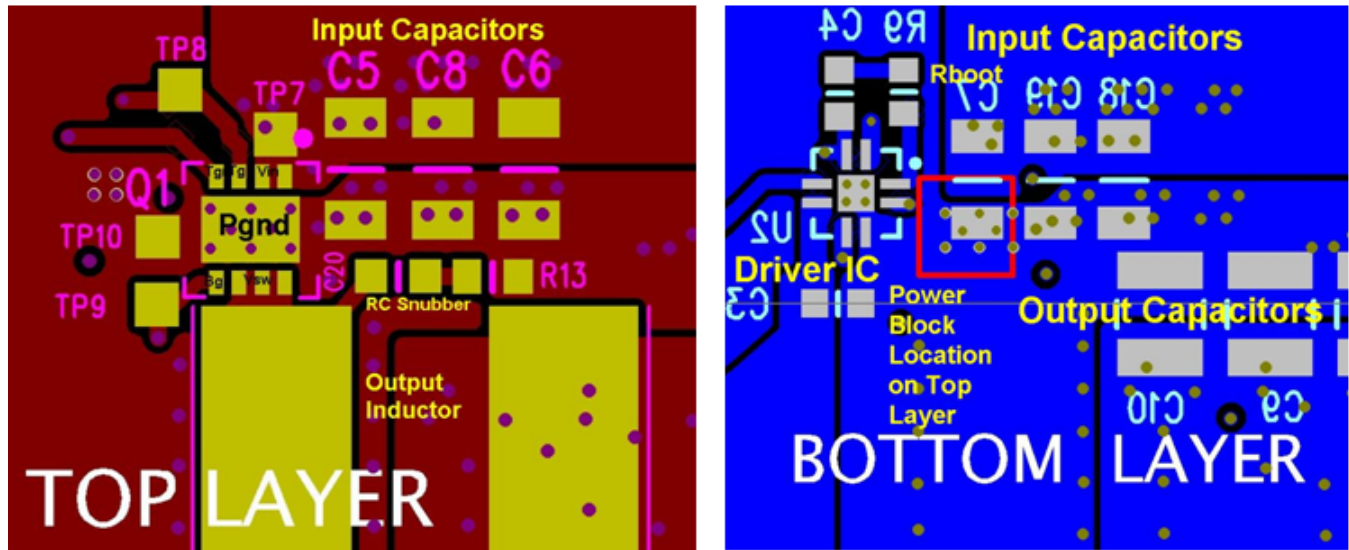

Figure 21. Recommended PCB Layout (Top Down)
- The placement of the input capacitors relative to the power block's V_{IN} and P_{GND} pins should have the highest priority during the component placement routine. It is critical to minimize these node lengths. As such, ceramic input capacitors need to be placed as close as possible to the V_{IN} and P_{GND} pins (see Figure 21). The example in Figure 21 uses six 10-μF ceramic capacitors (TDK C3216X5R1C106KT or equivalent). Notice there are ceramic capacitors on both sides of the board with an appropriate amount of vias interconnecting both layers. In terms of priority of placement next to the power block, C5, C7, C19, and C8 should follow in order.
- The switching node of the output inductor should be placed relatively close to the power block V_{SW} pins. Minimizing the node length between these two components will reduce the PCB conduction losses and actually reduce the switching noise level.⁽¹⁾ In the event the switch node waveform exhibits ringing that reaches undesirable levels, the use of a boost resistor or RC snubber can be an effective way to easily reduce the peak ring level. The recommended boost resistor value will range between 1 Ω to 4.7 Ω depending on the output characteristics of driver IC used in conjunction with the power block. The RC snubber values can range from 0.5 Ω to 2.2 Ω for the R, and from 330 pf to 2200 pF for the C. Please refer to Snubber Circuits: Theory, Design and Application (SLUP100) for more details on how to properly tune the RC snubber values. The RC snubber should be placed as close as possible to the V_{SW} node and P_{GND} (see Figure 21).⁽¹⁾
(1) Keong W. Kam, David Pommerenke, "EMI Analysis Methods for Synchronous Buck Converter EMI Root Cause Analysis", University of Missouri – Rolla
- Use the smallest drill size allowed in your design. The example in Figure 21 uses vias with a 10-mil drill hole and a 16-mil capture pad.